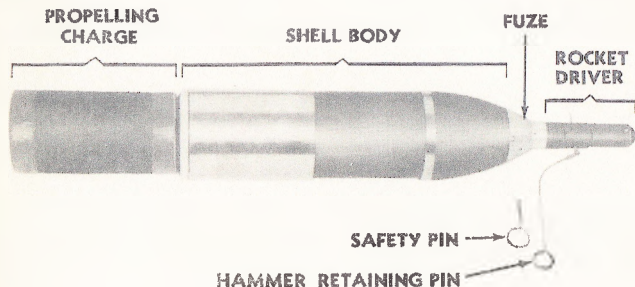

Fig. 29. Complete round for E34R1 recoilless mortar.
a. Complete round. Ammunition for the 4.2-inch recoilless chemical mortar is issued in the form of fuzed, complete rounds of fixed ammunition (fig. 29). The term "fixed" used in connection with ammunition signifies that the propelling charge is fixed (not adjustable) and that the round is placed in the muzzle as a unit. The round consists of a 4.2-inch chemical mortar shell body, 4.2-inch chemical mortar shell fuze (modified), modified cartridge container, rocket driver, and propellant assembly (figs. 29 and 30). For a description of the standard 4.2-inch chemical mortar shell body and fuzes, see TM 3-320.
b. Action on firing. (1) The complete round, weighing approximately 29 pounds, is loaded in the mortar by placing it in the muzzle. For direct fire (elevations up to 200 mils), where gravity will not always fire shell, the complete round as shown in figure 29 is used. The mortar is fired by pulling hammer retaining pin in the rocket driver. This actuates the driver and propels the round through the tube and against a fixed firing pin to actuate the percussion primer at base of shell.
(2) At elevations greater than 200 mils, the force of gravity is used to drive round against firing pin. Firing at these elevations, the rocket driver is not used. The round without rocket driver is dropped into the muzzle in the manner of firing the standard mortar.